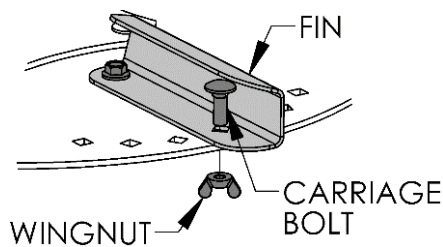

FIGURE 15.2
- **FIGURE** references used throughout reflect the page number as the first number(e.g. **FIGURE 20.1** is on page 20, **FIGURE 15.2** is on page 15, etc...).